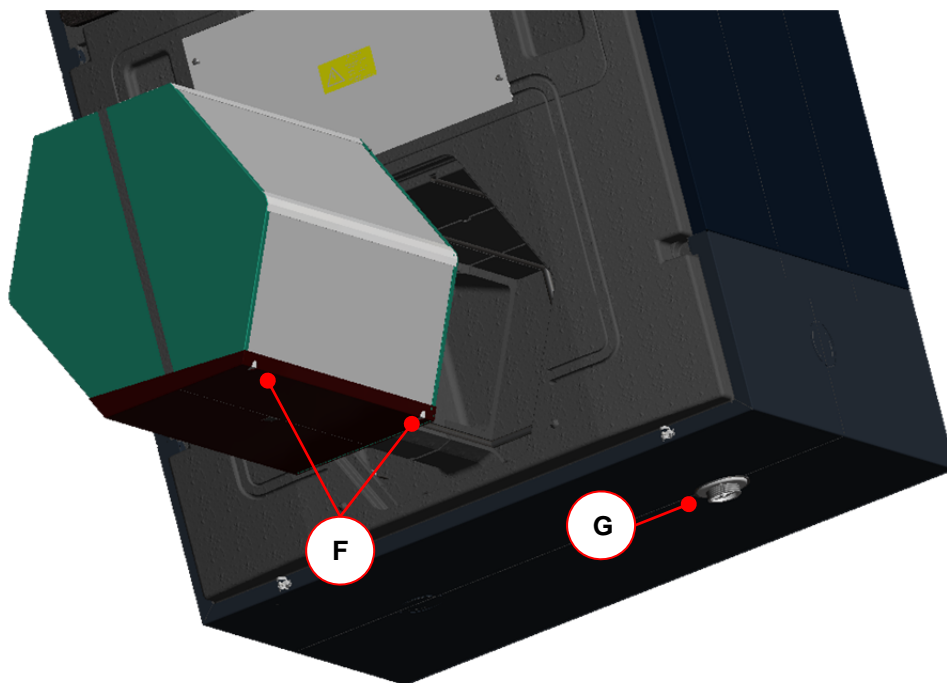

Fig 45: Position of the condensate pan when inserting the heat exchanger into the HRU
2. Insert the respective heat exchanger type considering the notes on Fig 45 and perform the work steps 7. to 9. pursuant to 3.7.1.
3. Insert the heat exchanger considering the notes on Fig 45 and perform the work steps 7. to 9. pursuant to 3.7.1.